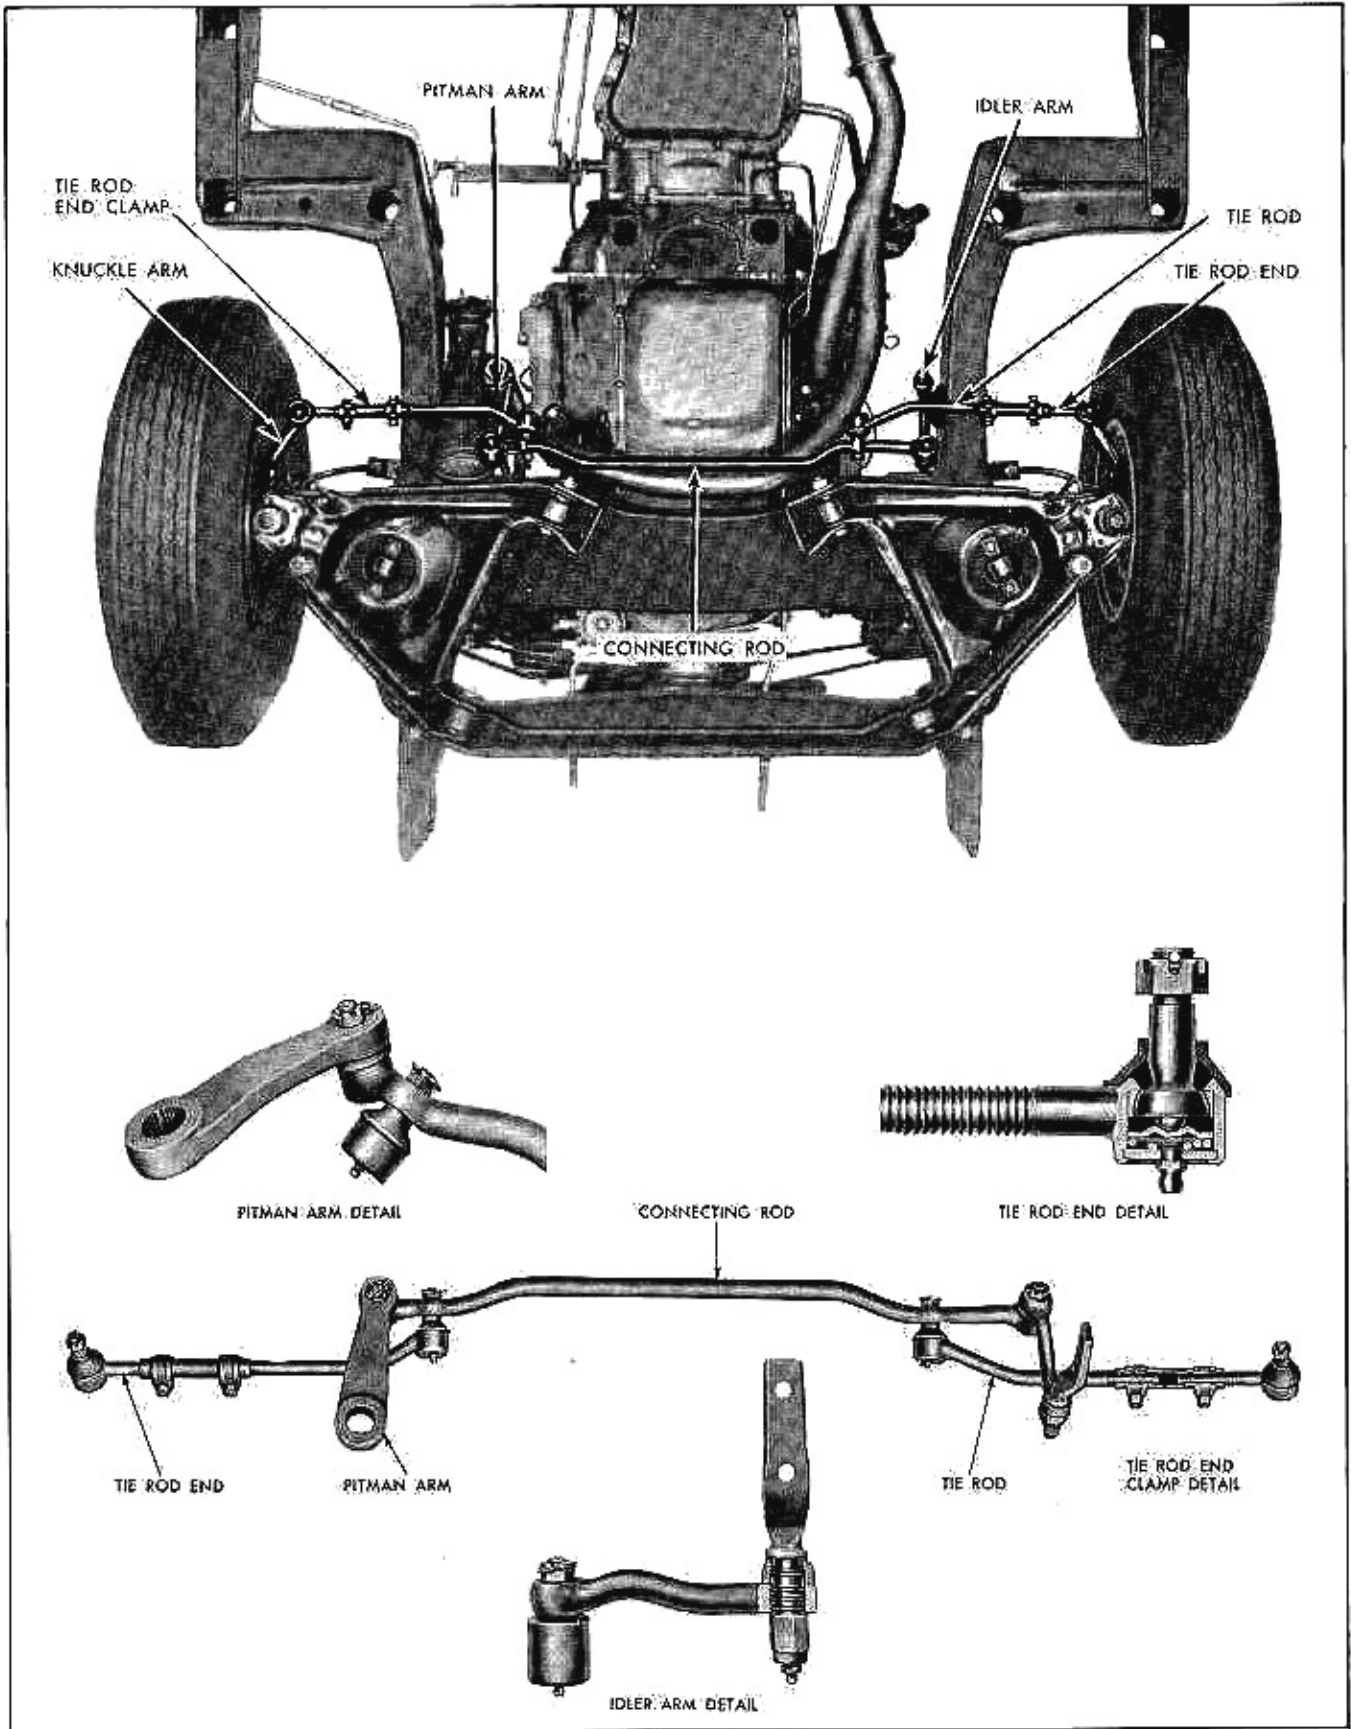

Fig. 9-3. Steering Linkage.
1. Disconnect steering connecting rod from pitman arm (Fig. 9-3).